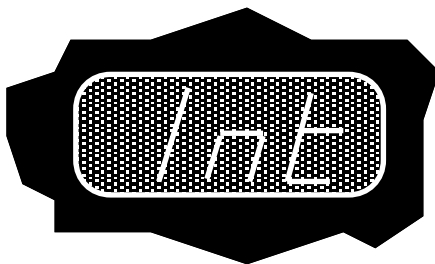

Figure 2-11. "Int" appearing on LED display indicating "system initialized"
3. Hold down the "UP" button (S101) while you turn the power back ON. (Refer to the Figure 2-4 in Chapter 2 for its exact location, situated at the lower end of the main board.) Once "Int" appears on the LED display (Figure 2-11), release the button.